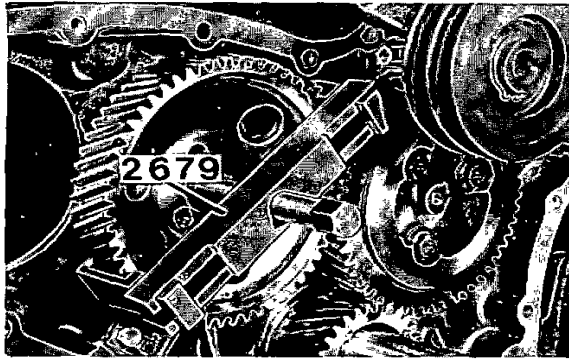

Fig. 77. Removing the camshaft gear
11. Remove the camshaft drive gear (2). Use puller 2679 (fig. 77) if necessary. The same procedure applies to the injection pump drive gear on the **70 series**.
12. **60 series:** Remove the injection pump drive gear (3).